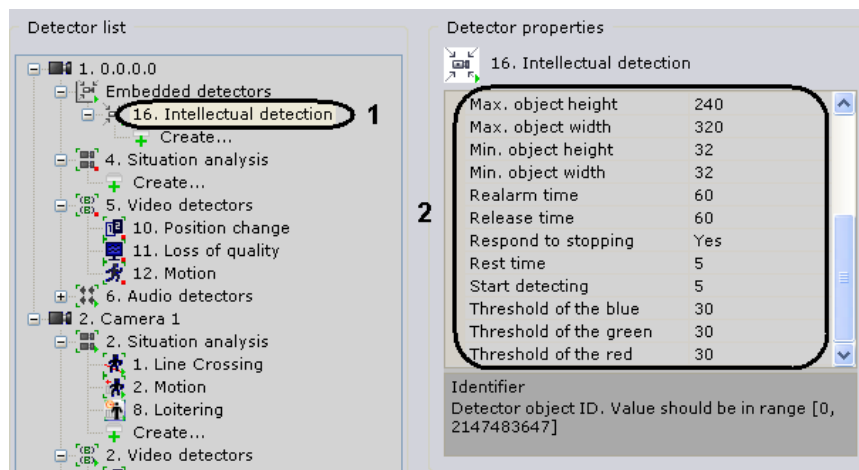

Fig. 6.5—21 Configuring a Sony Ipela detector
1. In the list of detectors, highlight an **Intellectual detection** object (Fig. 6.5—21, 1).
2. From the **Detect** list, select the desired detection mode: **Motion** or **Abandoned object** (see Fig. 6.5—21, 2).
3. If you selected motion detection (**Motion** in the **Detect** list), set the following parameters (see Fig. 6.5—21, 2):